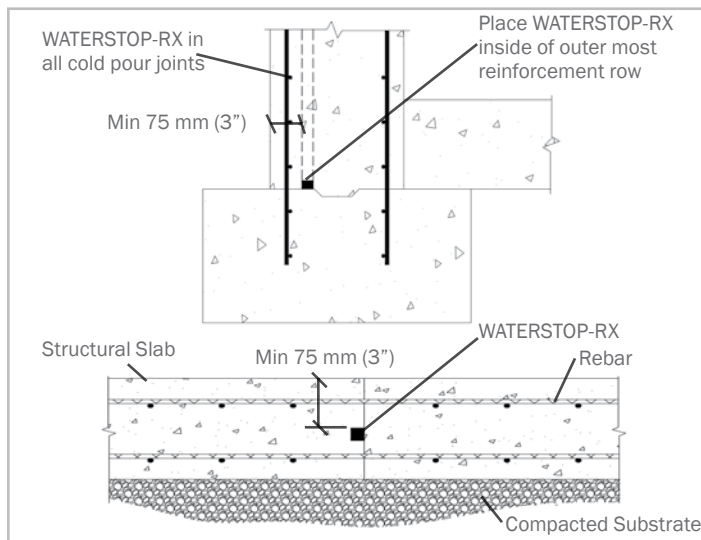
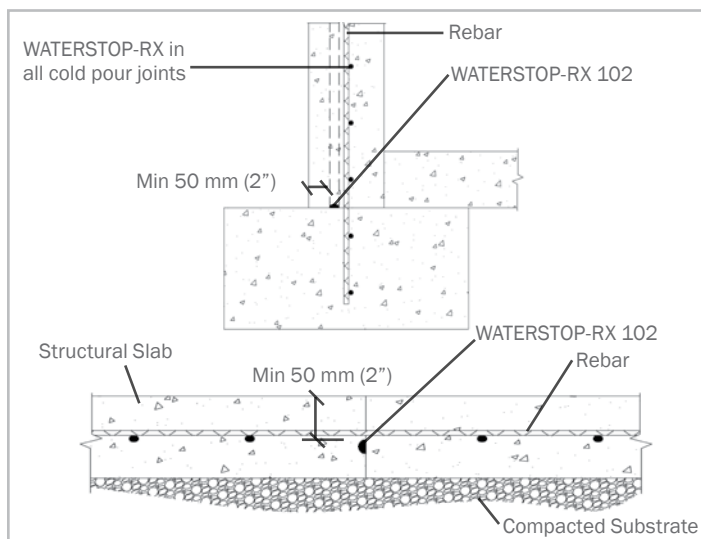

Figure 3.1 – Placement of WATERSTOP-RX 101 & 101T at typical construction joints with required 75 mm (3") concrete coverage
Figure 3.2 – Placement of WATERSTOP-RX 102 at typical construction joints with required 50 mm (2") concrete coverage
**WATERSTOP-RX is not designed, nor intended to function as an expansion joint sealant.** RX-101 and RX 101T require a 75 mm (3") minimum concrete coverage to the exterior concrete surface (see Figure 3.1). RX 102 requires a 50 mm (2") minimum concrete coverage to the exterior concrete surface (see Figure 3.2).